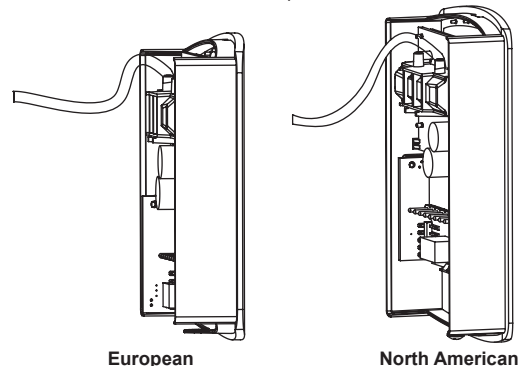

Figure 6: Calibration
- Step 2: Remove one of the gas nipple covers on the CO2 sensor and attach tubing from the gas pressure regulator to the nipple (See Figure 6).
- Step 4: Hold housing so that the sensor is in the vertical plane as shown in Figure 6.